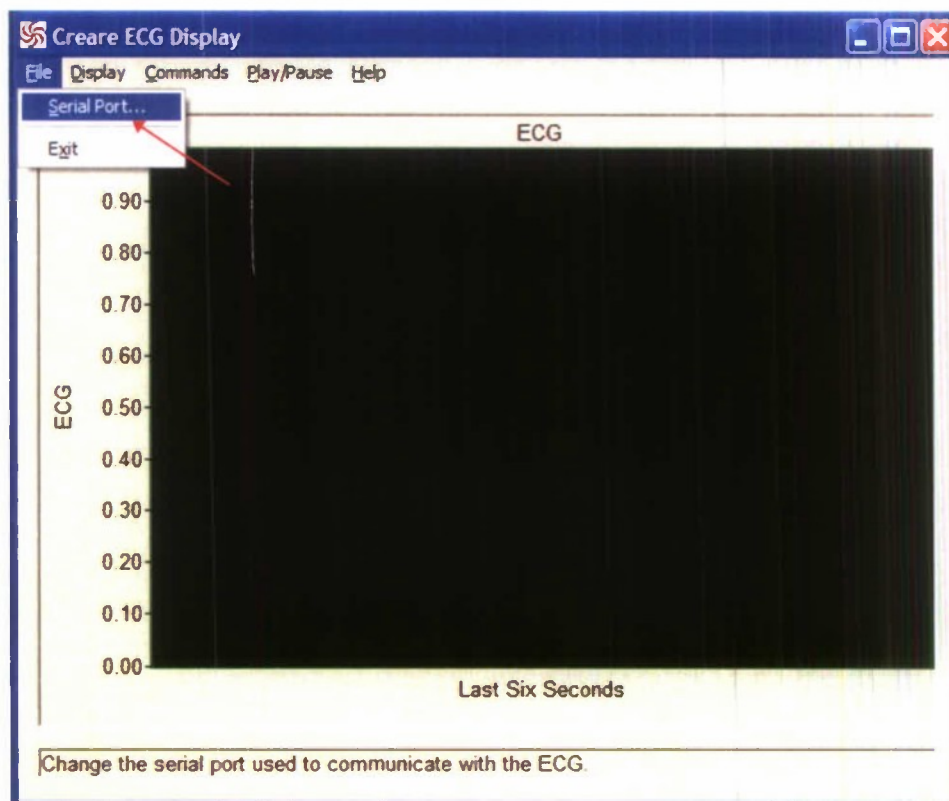

Figure 18. Setting the Serial Port for Communication to the DHMS Sensor
3. Set the Serial Port. In DHMS software on the PC, go to the **File** menu and choose **Serial Port...** as shown in Figure 18. In the resulting dialog box, use the drop-down menu to choose the COM port for the DHMS sensor that you are going to use.